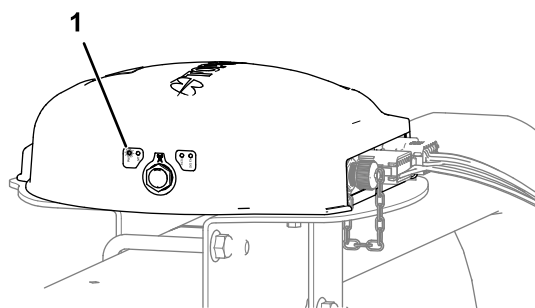

Figure 272
- Satellite receiver—the PWR indicator illuminates (Figure 272)